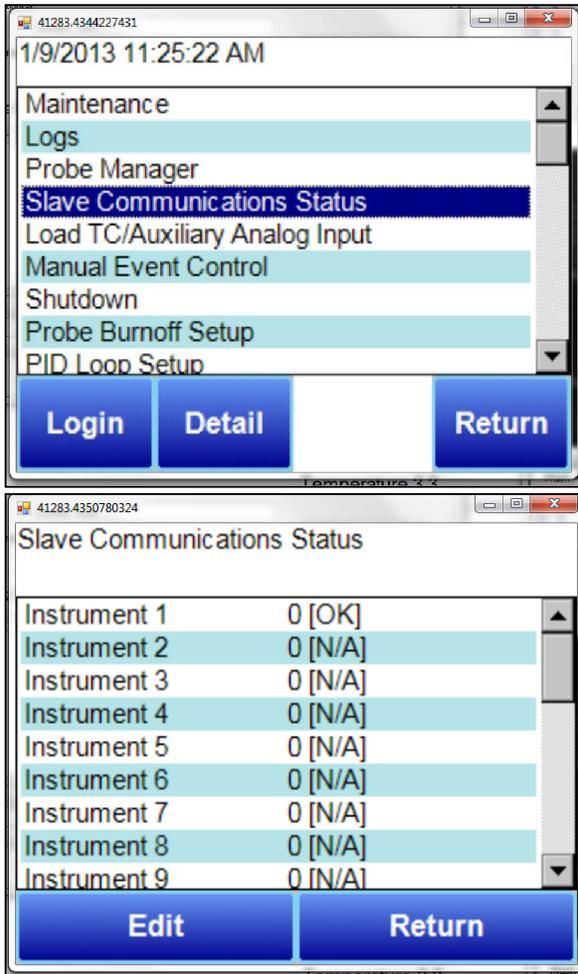

Figure 6 - Slave Communications Status on 92XX Touch Screen
**NOTE:** The “Instrument *number* [OK]” indication can also be observed on the 92XX touch screen under the main menu item “Slave Communications Status” (Figure 6).